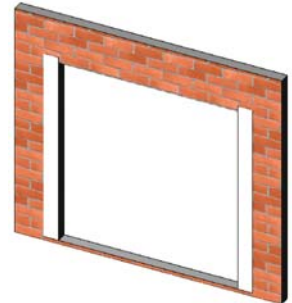

Figure 33:
2. At each jamb, embed the flashing paper into the sealant onto mounting flange and fasten into place. The flashing paper should be cut sufficiently long enough to extend at least 3 in. past the weep-screed or diado flashing and at least 6 inches above the head of the window (Figure 33).